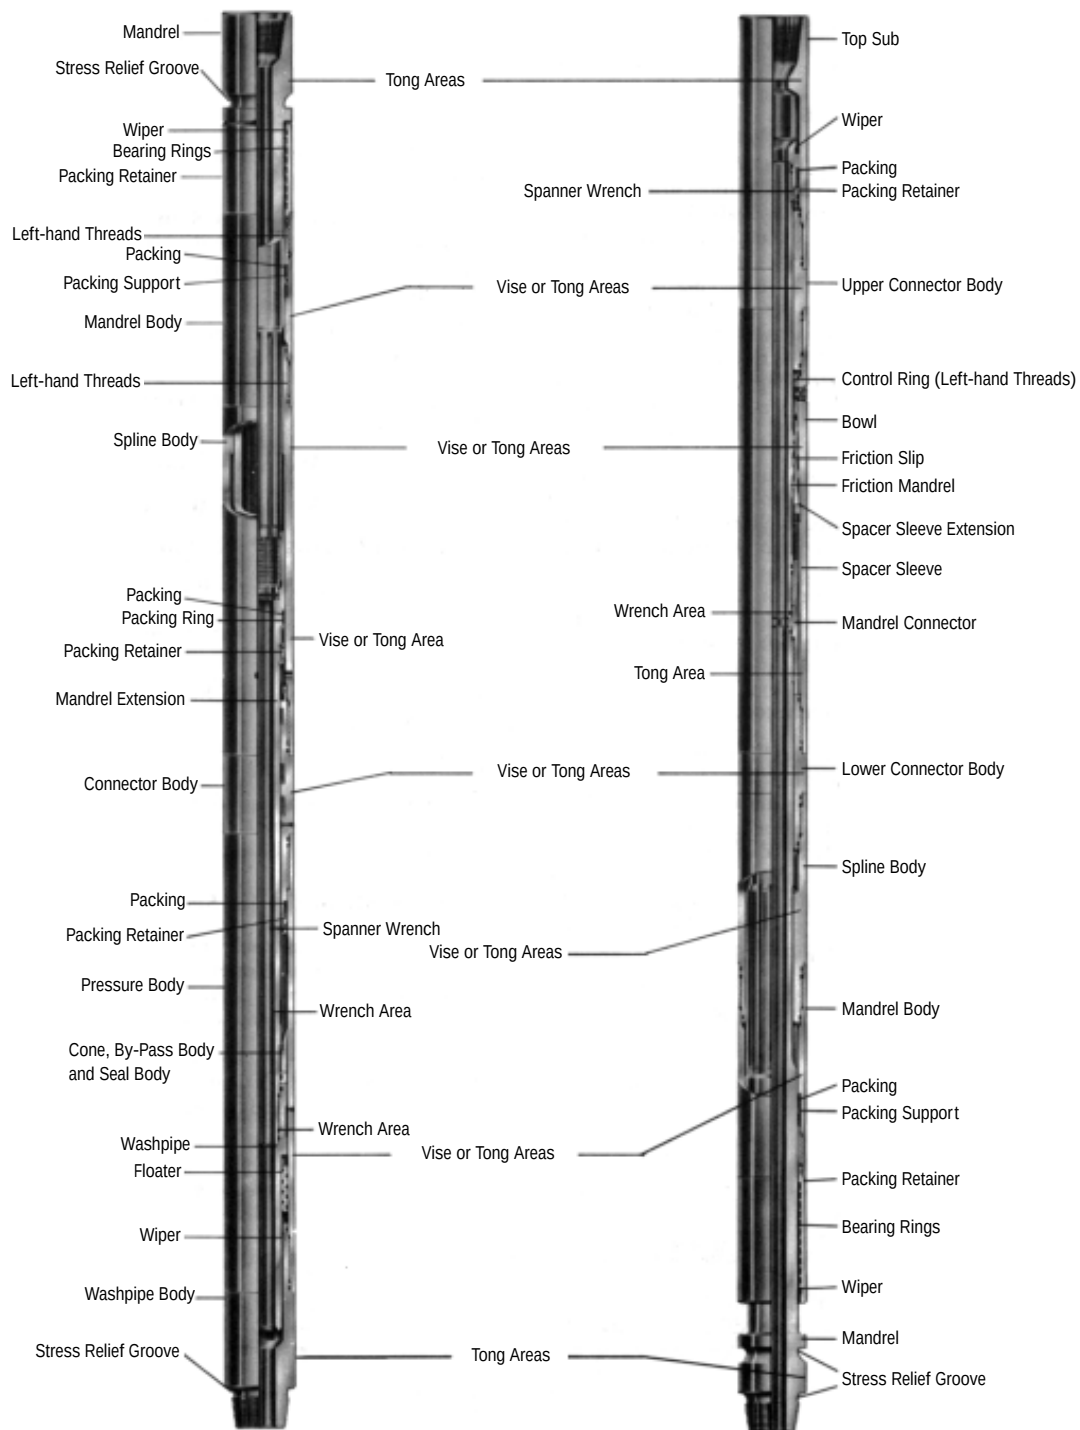

Figure 5
1. Using crane, place Up Jar in Vise with Mandrel extended so that it clamps about 15 inches above lower end of Pressure Body, or just below fill plug in middle of Pressure Body. Coat Washpipe Body pin threads with Bowen Itcolube (anti-gall compound) and make up thread protector to pin. Then use Tong to remove Washpipe Body. (Refer to Figure 5 on page 12 for safe areas to use Vise, Tongs, or Wrenches.)